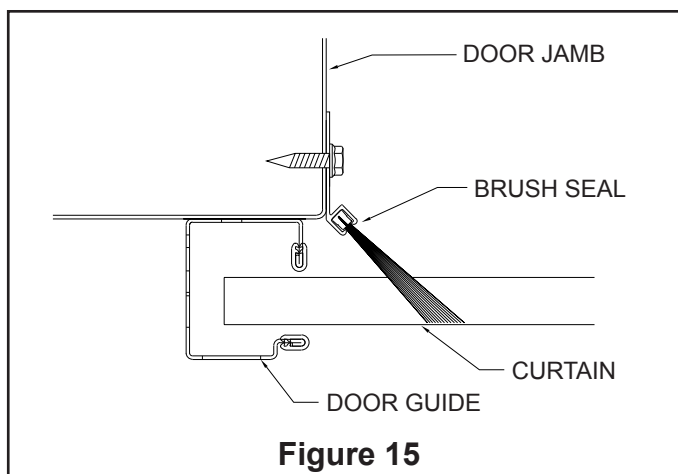

Figure 15
11.2 Close the door before installing the brush seal. Position brush seal so it just touches the flat portion of the inside of the curtain (See Figure 15). Fasten brush seal to jamb every 12” with appropriate fasteners.